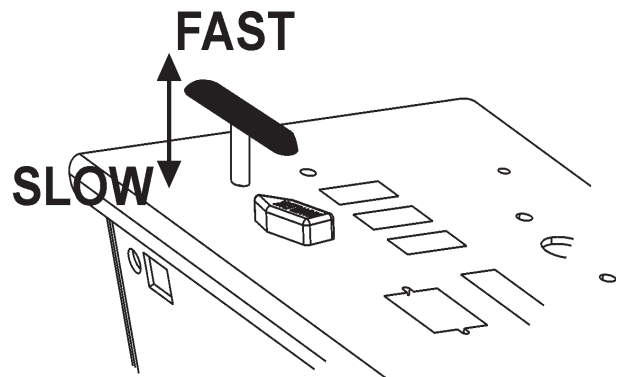

Figure 22. Throttle Lever
6. Place the **throttle lever** (Figure 22) halfway between **fast** and **slow** for starting. All sawing is done at full throttle. The engine governor speed is factory set to ensure optimum blade operating speeds.
1. Place the throttle lever (Figure 22) in the slow position, and listen for the engine speed to decrease.
2. Move the engine throttle lever to the idle (**SLOW**) position (Figure 22).